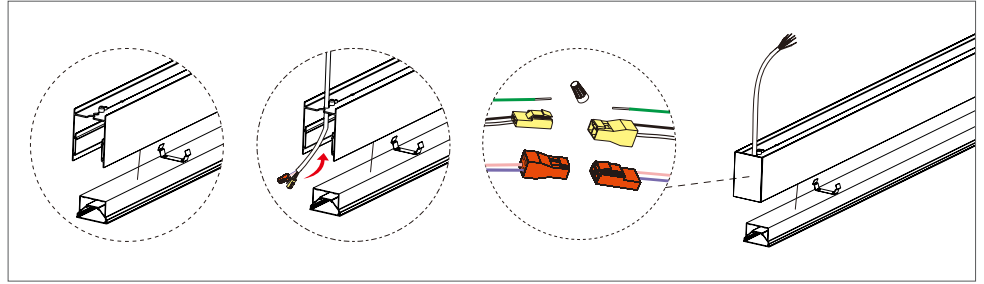

FIGURE 5-1
1) Prior to installation, take off the end cap and LED module, and thread the power cord out of the housing as shown. Make connections and secure end cap back in place. (Figure 5-1)